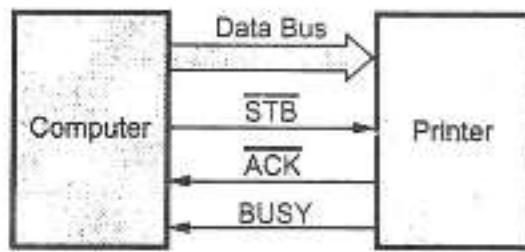

Fig. 3.4.3 Data transfer between computer and printer using handshaking signals
- Fig. 3.4.3 shows data transfer between computer and printer using handshaking signals. These handshaking signals are used to tell computer whether printer is ready to accept the data or not. If printer is ready to accept the data then after sending data on data bus, computer uses another handshaking signal (STB) to tell printer that computer and printer using handshaking valid data is available on the data bus.